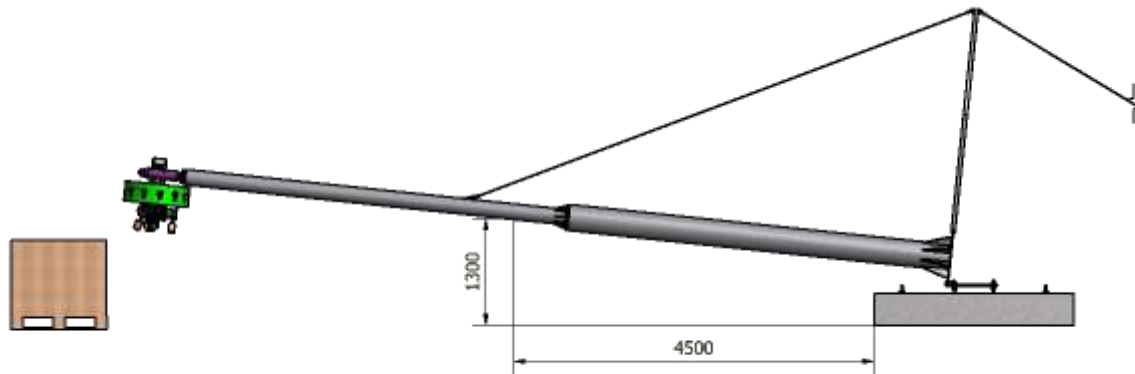

Figure 17 – Repositioning the tower
2. Place the mast tripod or wooden pallets with a height of 1,3 m underneath the 2nd segment approximately 4,5 m from the foundation edge (see Figure 17).